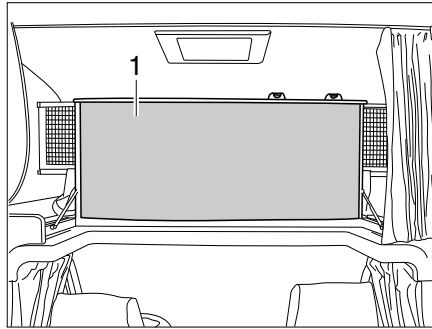

Fig. 156 Overcab bed, folded upwards
- Fold the front of the overcab bed (Fig. 156,1) upwards. The overcab bed is kept in the upper position by gas-pressure springs.